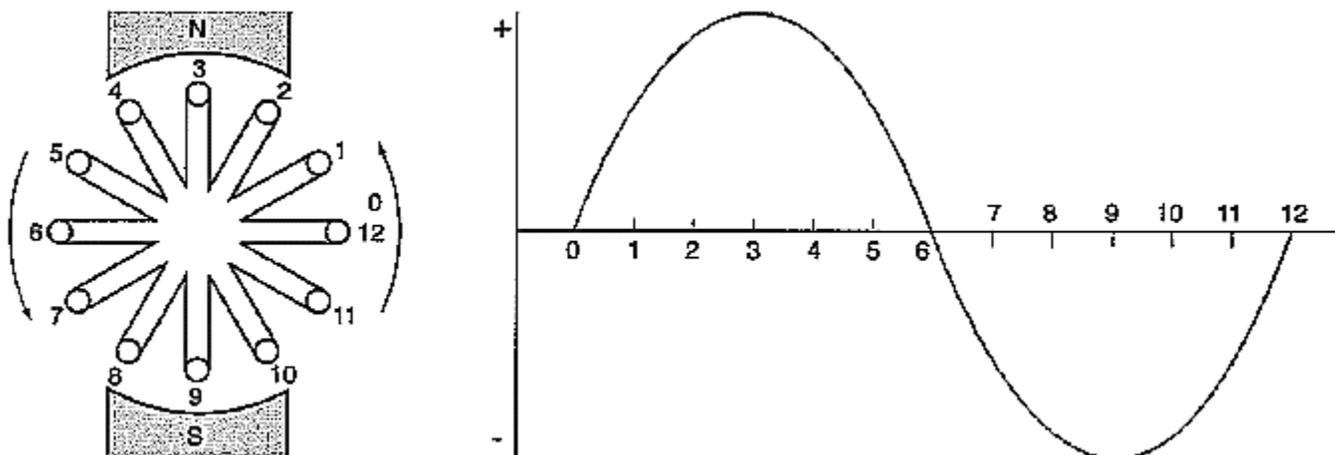

Figure 9.1: Potential Difference Generated in a Two-Pole Alternator
- 9-12 The manner of generating alternating current is shown in Figure 9.1. A two-pole alternator is shown with a wire loop rotating through a magnetic field. The loop is "open." That is, the ends are not connected to each other or to anything else.
9-14 One complete revolution of the loop produces one complete alternation in the value and direction of the potential difference generated, as shown by the graph in Figure 9.1. The number of cycles completed every second is called the **frequency** of the alternation, measured in *hertz*.